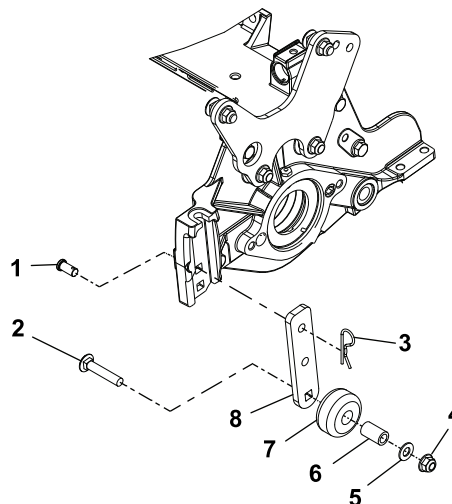

Figure 187
4. Disassemble the shop roller assembly by using the Figure 187 as a guide.
1. Assemble the shop roller assembly by using the Figure 187 as a guide.